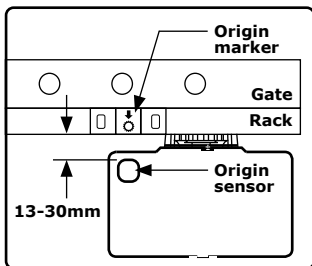

FIGURE 1
- Ensure that the sensor is as close as possible to the origin magnet – ideally the gap should be approximately 13mm. Refer to Figure 1 on page 2
- Move the magnet closer to the origin sensor. Refer to Figure 1 on page 2